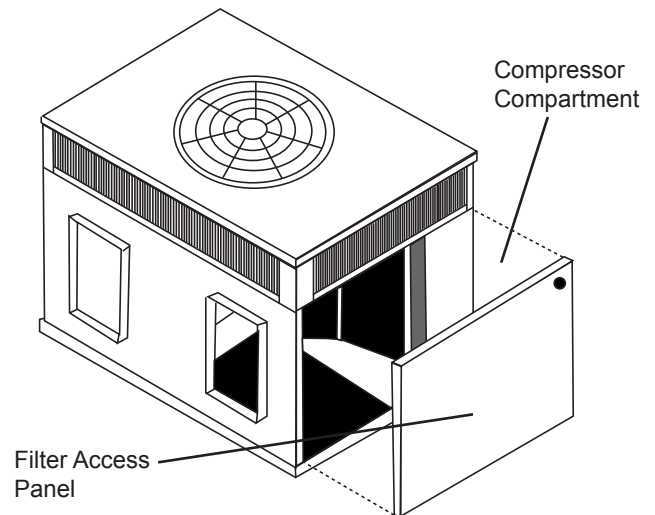

Fig. 1 - Panel Removal
1. Remove the filter access panel on the HVAC unit Fig. 1.